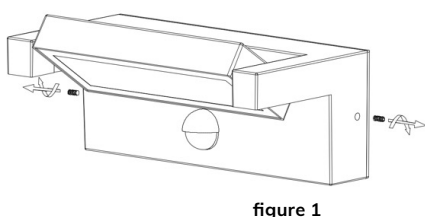

figure 1
- » Unscrew the 2 screws on 2 sides to open it. (refer to figure1)